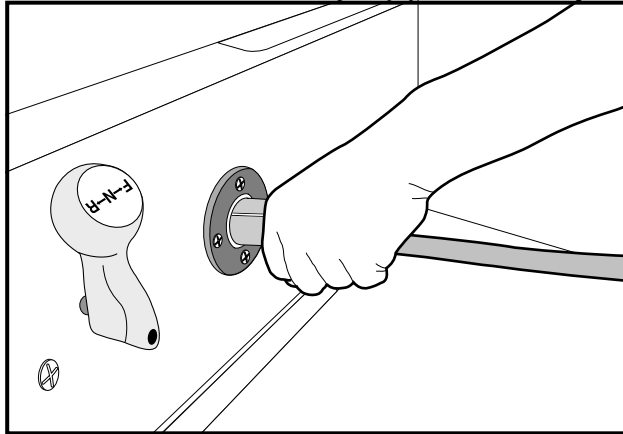

Figure 13 Correct Insertion of Charger DC Plug
- Do not rock or bend the plug. To connect the charger plug to the vehicle receptacle, grasp the plug handle and push the plug straight into the receptacle (Figure 13, Page 31).
Insert the charger DC plug into the vehicle receptacle. The charger will turn on two to ten seconds later (**Figure 13, Page 31**).